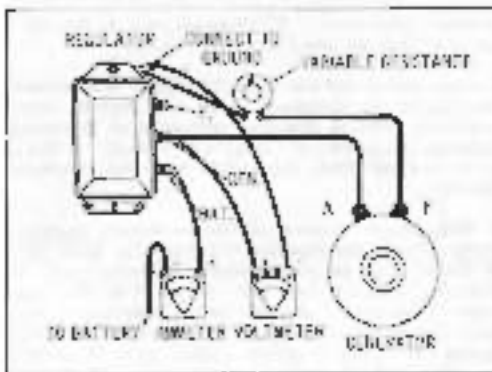

Figure 51-2.
B. TESTING OUTPUT RELAY UNIT CLOSING VOLTAGE (THE SAME CONNECTIONS ARE USED AS IN TEST A (FIG. 51-2))